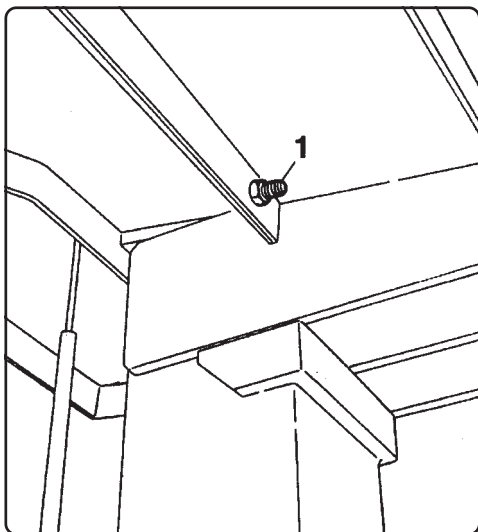
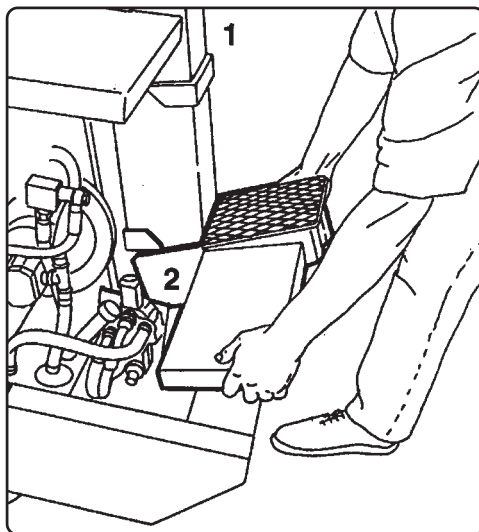

Fig. 6
Fig. 7
- 1) Position the wood-cutter on the level with the anvil properly inserted in its upper seat (1 Fig. 7). Check that the fixing bolt under the worktop (only for PS 700/900) is
properly tightened (1 Fig. 6). Whenever you want to have a larger distance between the knife and the working plane, check that latter, at the bottom (2 Fig. 7), strikes against the machine's structure.
With models PS700 and 900 it is possible to increase the maximum cutting height by simply removing the screw (1 Fig. 6) and moving the anvil from position 1 to position 2 (Fig. 7). Make sure that the working plane strikes against the machine's bearing structure.
remember to replace the screw and lock nut (1 Fig. 6).